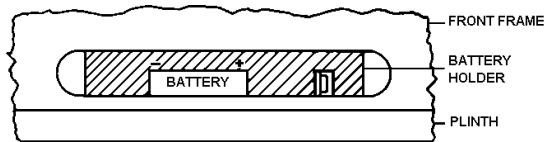

Fig.4
1. The battery is located on the left hand side of the front plinth and can be viewed through a slot in the bottom left hand corner of the front frame( Fig 4.)